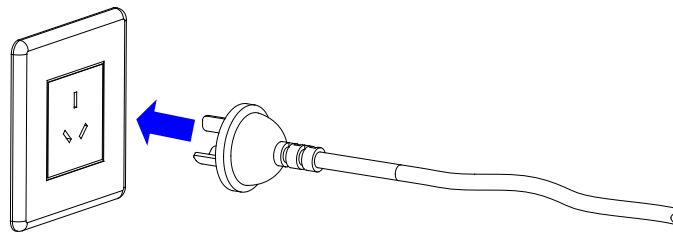

Figure 2-12 Plug the Power Cord
3. Plug the male end of the power cord into a live wall outlet. See Figure 2-12.